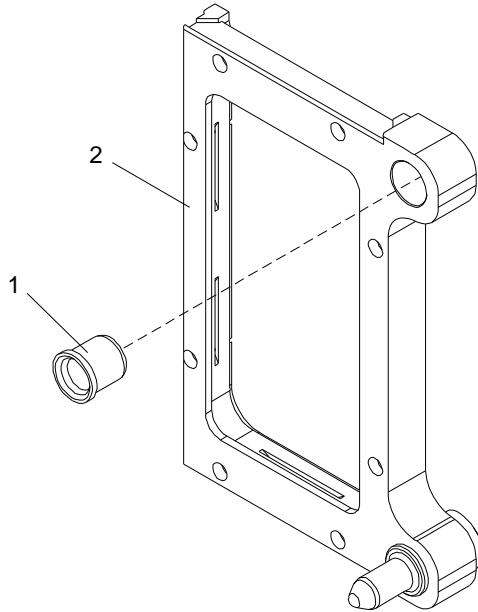

Figure 7-22: Replacement of Guide Bushing
2. Press the guide bushing (1) out of the frame (2). See Figure 7-22.
2. Fit the guide bushing (1) to the Drifter, 1032915. See Figure 7-22.
3. Press the guide bushing (1) into the frame (2) using the Drifter, 1032915. Gently tap the drifter with a hammer until the guide bushing is fully pressed into the frame.